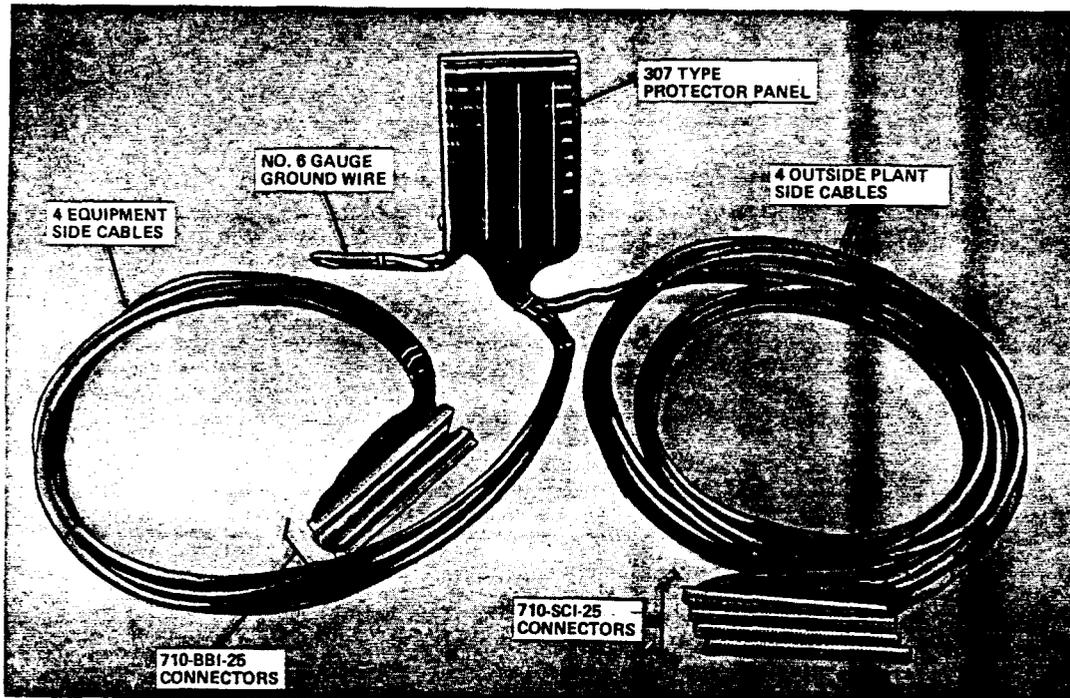

Figure 8. 307C5-100 Connector
2.08 The 307C5-100 connector (Figure 8) has a protector panel with connectorized harnesses to be used in 80-type cabinets for the derived cable pairs for the **SLC** Series 5 Carrier System remote terminal. The harness for the equipment side is made from four 25-pair cables 4 feet (1.2 m) long, which are connectorized into 710-BB1-25 connectors, and is routed through the cabinet to the channel bank splice area for either position 2 or position 4. The harness for the outside plant side is made from four 25-pair cables 10 feet (3.1 m) long, which are connectorized into 710-SC1-25 connectors, and is routed through the cabinet to the outside plant cable splice area.